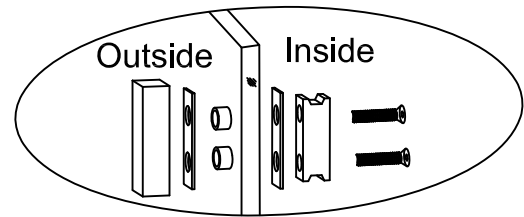

Fig. 12
12. Next assemble the stainless steel fitting and glass connector parts to top holes in Return Glass Panel (23). The stainless steel fitting should be positioned to the inside of Return Glass Panel (23) when complete. See Fig.12 for details